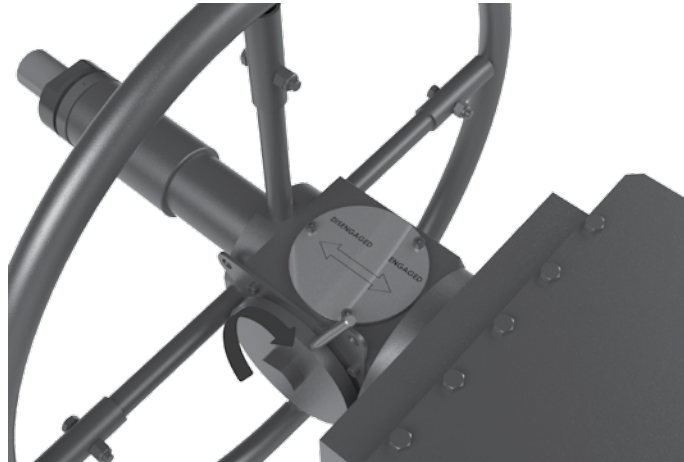

Figure 4 – Detail of LPS Double-Acting with Enclosed Jackscrew Override (Declutchable)
2.1.3.1.2 Rotate the lever on the manual override from “DISENGAGED” to “ENGAGED” position (see Figure 4).